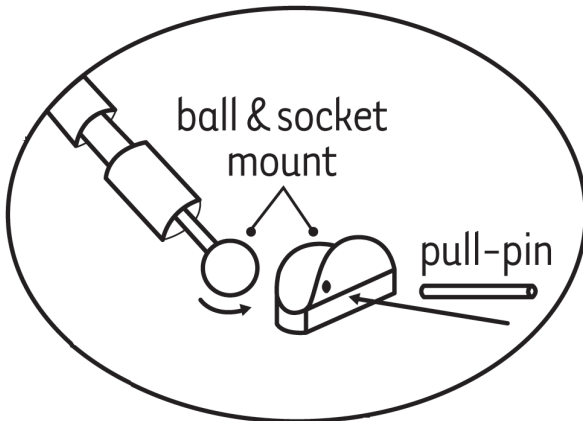

Figure O3: Ball & Socket Mount
- 1) Starting with the main bow, attach the bimini frame using the ball and socket mounts. See Figure O3.